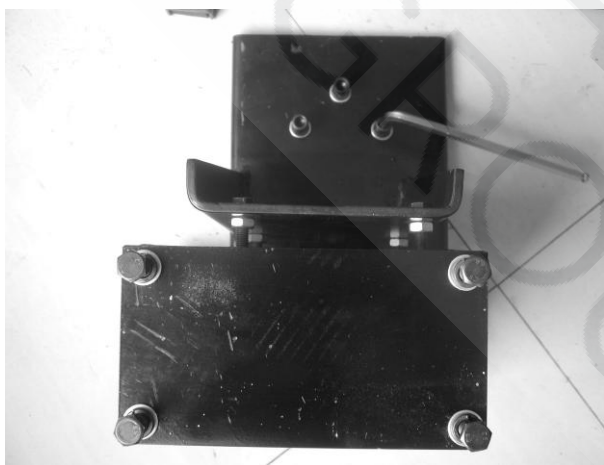

FIG34
6.1.2 Detach the package of the PL330 assistant. Check the accessory according to the pack list. After confirmation, take out the base assembly (fig34) and remove the screw and washer on it.